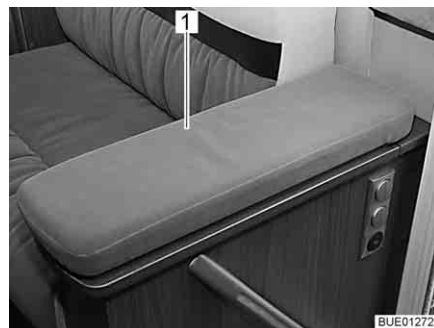
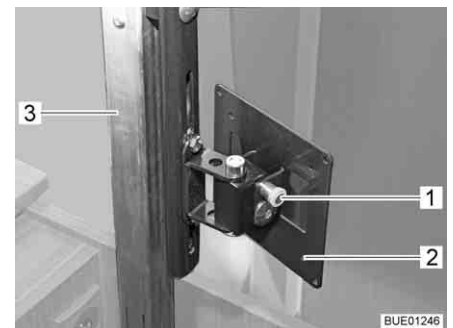

Fig. 69 TV compartment
Fig. 70 Lifting mechanism
- Lightly depress the cover (Fig. 69,1) of the TV compartment in the centre. The extension column (Fig. 70,3) is released and starts to move upwards.
- Pull the release knob (Fig. 70,1) and swivel holder (Fig. 70,2) with flat screen to the desired position.
- Turn the flat screen back into the original position until holder (Fig. 70,2) engages in the lock.
- Press the middle of the cover (Fig. 69,1) downwards against the resistance of the extension column (Fig. 70,3) until the locking mechanism engages.